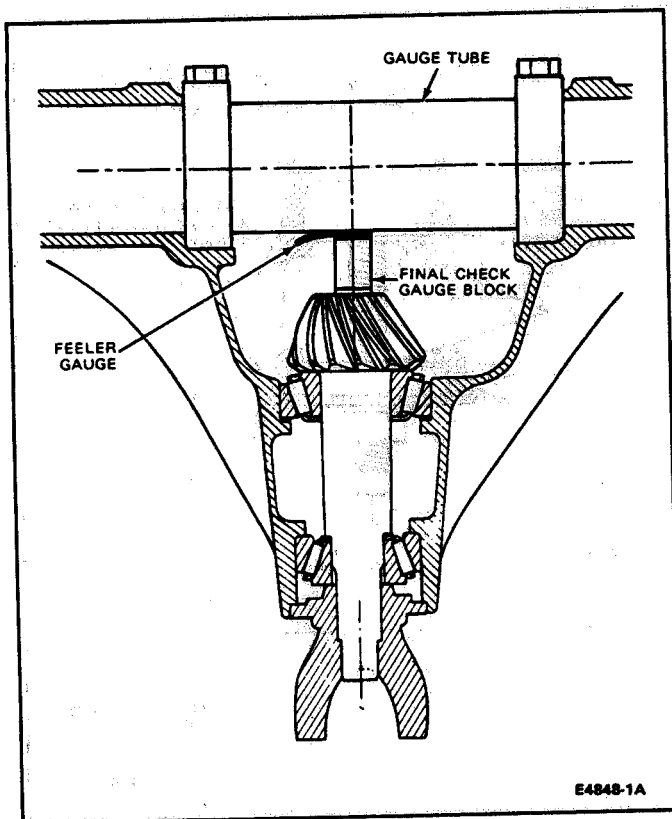
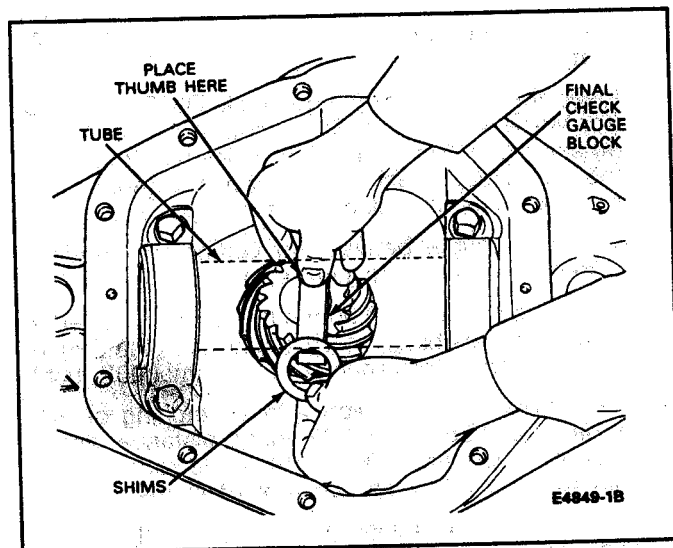

FIG. 34 Final Pinion Depth Check
FIG. 35 Checking Final Pinion Depth
(Fig. 34). Install bearing caps and tighten to 108-122 N·m (80-90 ft-lbs).
7. Insert the final check gauge block, D81T-4020-F52 (for Model 44 axles) or D81T-4020-F53, (for Model 50 axles) (Fig. 34) on top of the pinion button under the gauge tube. Place the thumb on the gauge block to make sure the block is level (Fig. 35).